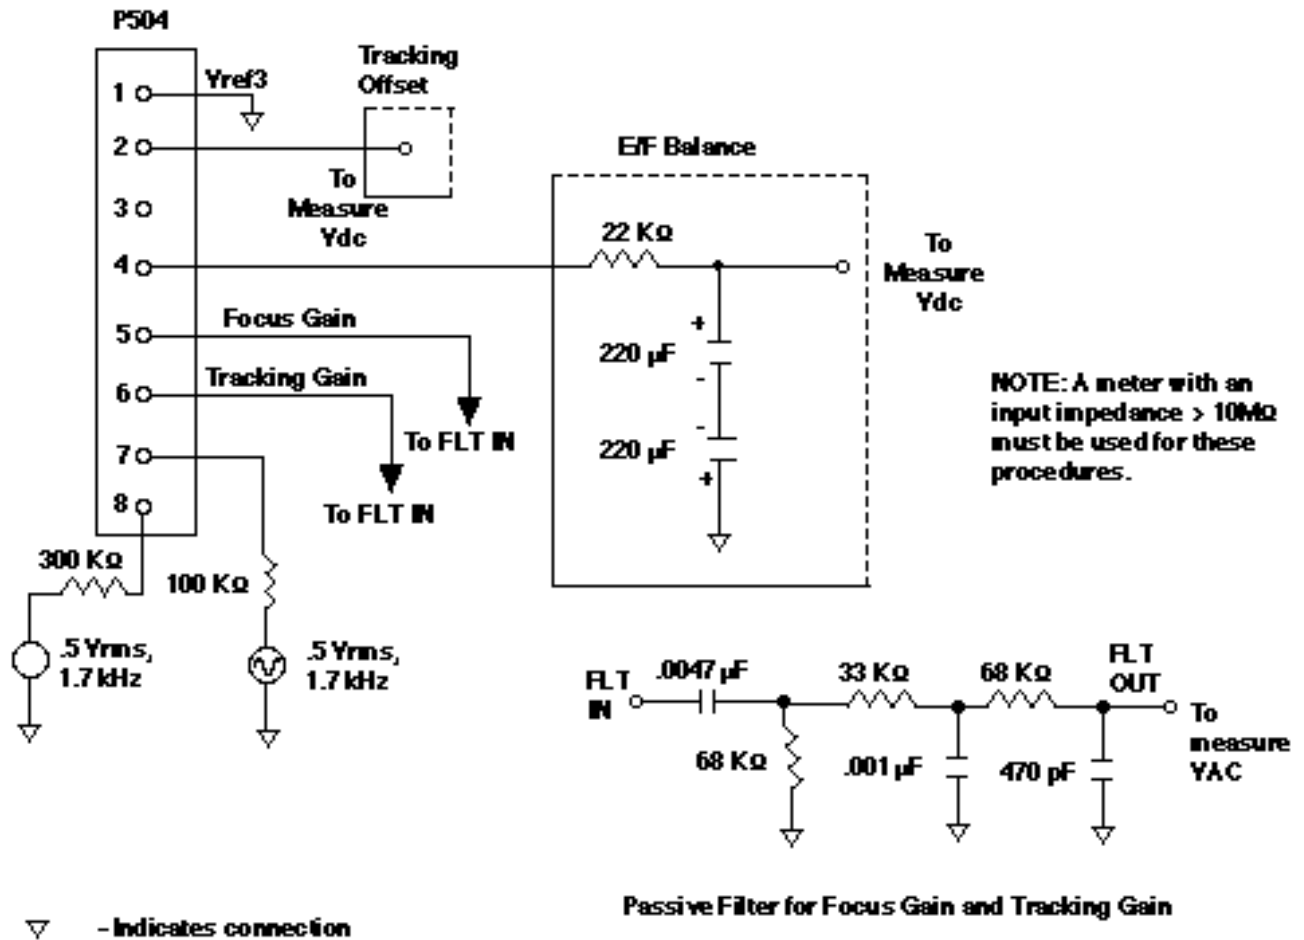

Figure 12. Passive Filter Network and Test Setup
**Note:** Refer to Figure 12 throughout this procedure.
**Note:** The test disc is required for this test. Construct the filter indicated in Figure 12 and connect it to P504 pin 4 (TEAO).
**Note:** Shut the unit off. Construct the filter indicated in Figure 12 and connect it (FLT IN) to P504 pin 6 (TPA+).
**Note:** Construct the filter indicated in Figure 12 and connect it (FLT IN) to P504 pin 5 (FEAO).